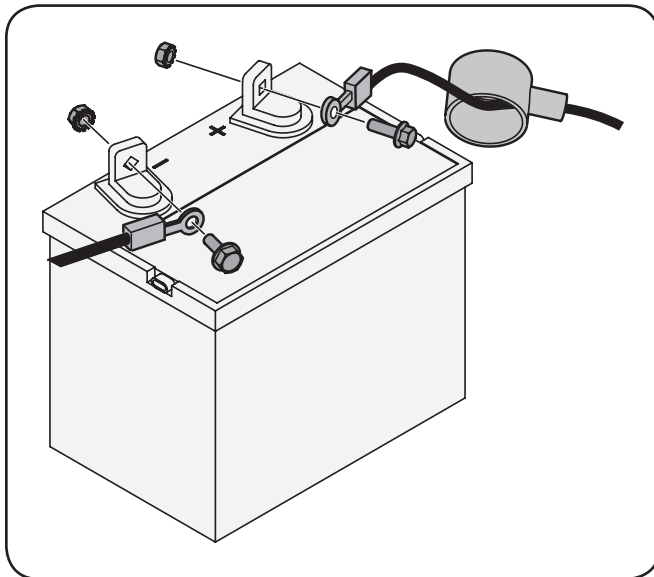

Figure 3-7
1. Remove the plastic cover, if present, from the positive battery terminal and attach the red cable to the positive battery terminal (+) with the bolt and hex nut. See Figure 3-7.
2. Remove the plastic cover, if present, from the negative battery terminal and attach the black cable to the negative battery terminal (-) with the bolt and hex nut. See Figure 3-7.